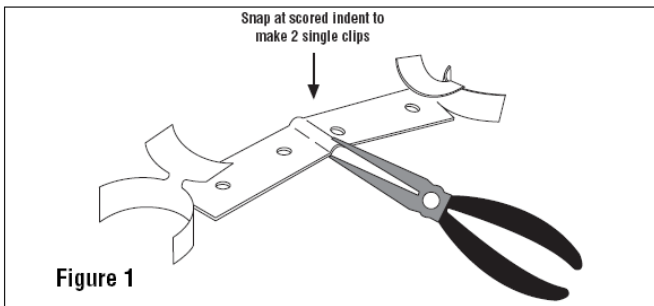
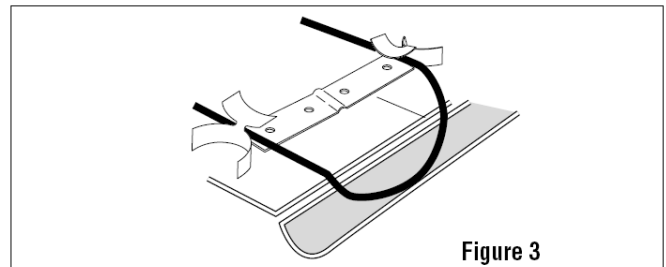
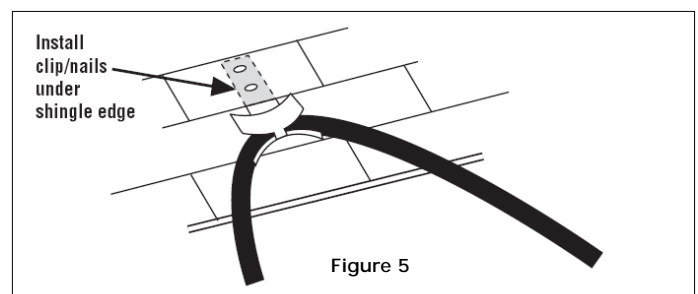

Figure 1
Figure 3
Figure 5
1. Plan the layout of the GutterMelt® Roof Clips according to the installation instructions supplied with the GutterMelt® cable. One double clip is used to secure the heating cable looped at the roof edge (this assures a drainage channel to the gutter, see figure 3). A single clip is used to fasten the cable at each top or apex of the layout, see figure 5. Single clips are made by breaking each double clip in half at the scored indentation. See Figure 1.
4. Using pliers, gently crimp the GutterMelt® Roof Clips firmly about the GutterMelt® Cable, being careful not to crush or otherwise change it. See figures 3 & 4